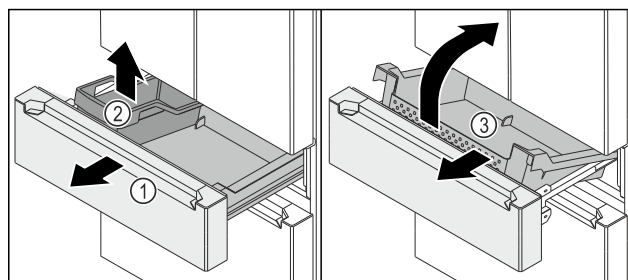

Fig. 127
- Pull out the pull-out cart *Fig. 127 (1)* as far as it will go.
- Remove the FlexBox *Fig. 127 (2)*.
- Lift up the container *Fig. 127 (3)* at the front.
- Remove the container *Fig. 127 (3)* diagonally from the front.